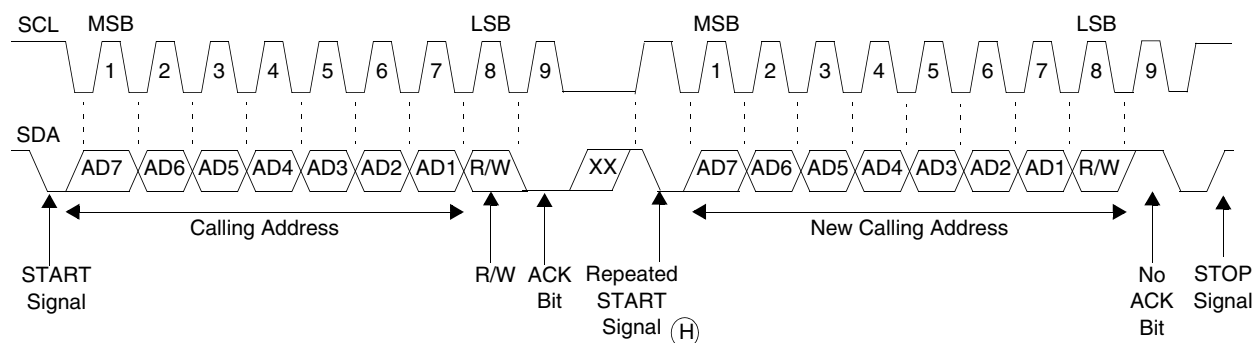

Figure 26-3. Repeated START
When the master transmits data to the slave and the slave does not acknowledge the master, this indicates an end-of-data condition to the master. The SDA line is left high and the master can generate a STOP signal to abort the data transfer or generate a START signal (repeated START, shown in Figure 26-3 on page 26-4) to restart the transfer.
- **Repeated START (H)**—Instead of sending a STOP signal, the master can repeat the START signal and the rest of the communication protocol. When a START signal is generated without a preceding STOP signal, a repeated START occurs. This is shown in Figure 26-3. The master generates a repeated START to communicate with another slave or with the same slave in a different mode (transmit/receive mode) without releasing the bus.